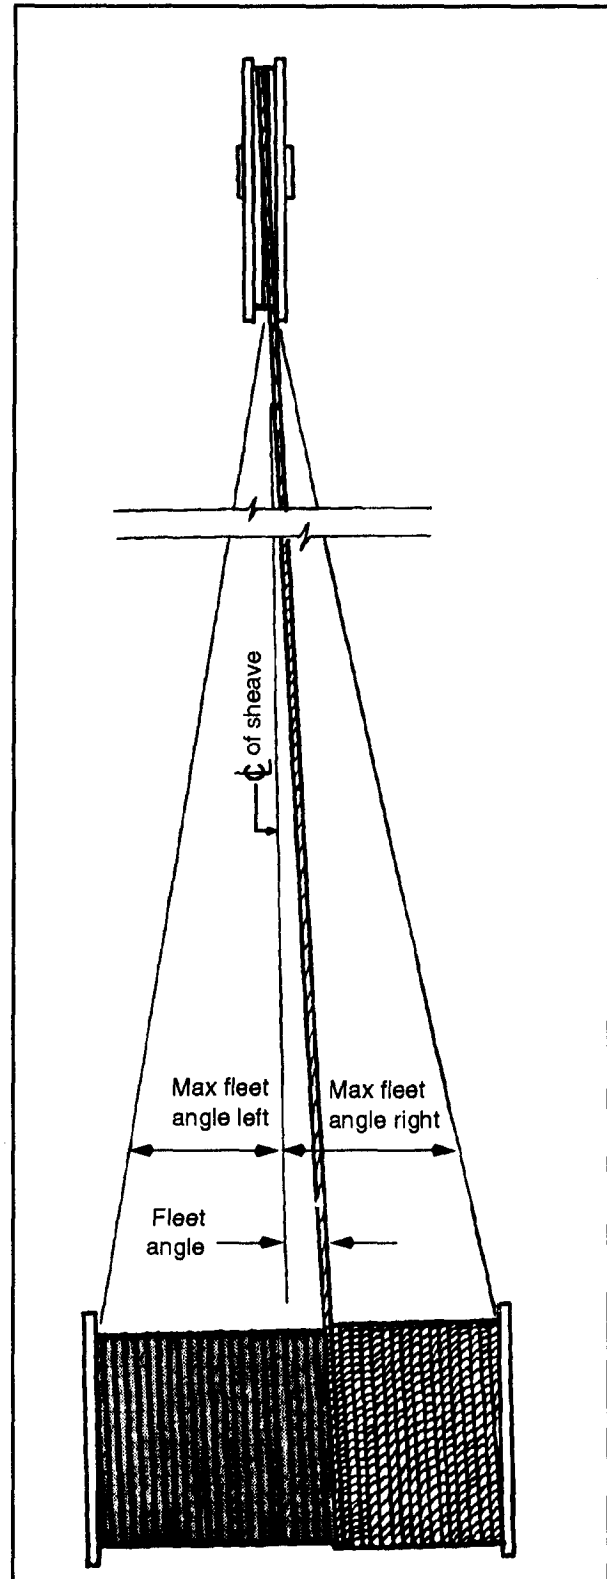

Figure 3-23. Fleet angle
- The fleet angle of the hoisting line winding on the drum (see *Figure 3-23*).
The drum of the winch is placed so that a line from the last block passing through the center of the drum is at right angles to the axis of the drum. The angle between this line and the hoisting line as it winds on the drum is called the fleet angle (see *Figure 3-23*). As the hoisting line is wound in on the drum, it moves from one flange to the other so that the fleet angle changes during the hoisting process. The fleet angle should not be permitted to exceed 2 degrees and should be kept below this, if possible. A 1 1/2-degree maximum angle is satisfactory and will be obtained if the distance from the drum to the first sheave is 40 inches for each inch from the center of the drum to the flange. The wider the drum of the hoist the greater the lead distance must be in placing the winch.